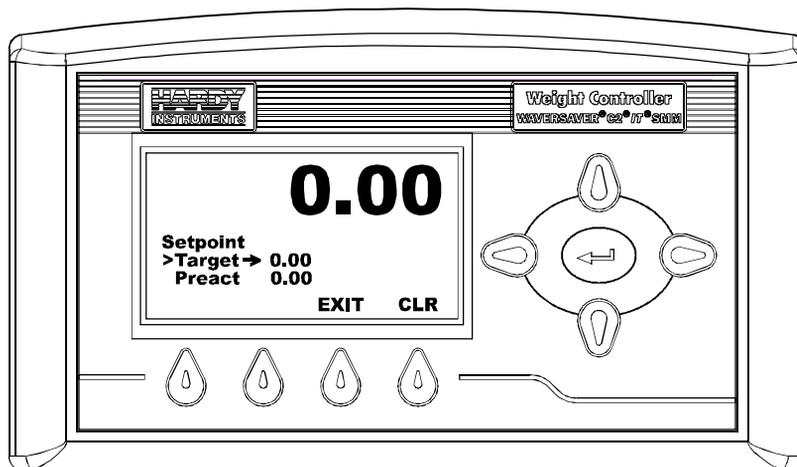

FIG. 367 SET POINT/SELECTING TARGET
- Step 11. Press the Down arrow button until the cursor is in front of “Target”. (See Fig. 367)